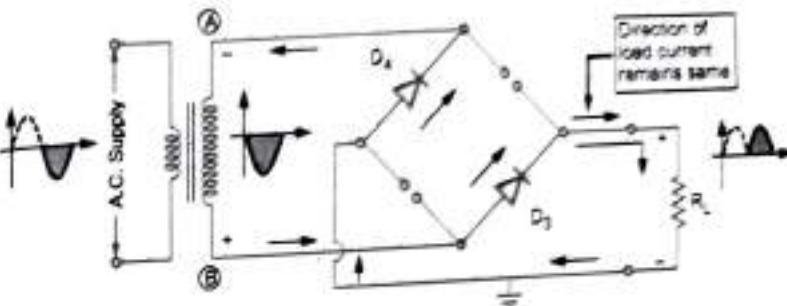

Fig. Q.32.3 Current flow during negative half cycle
- In the next half cycle, when the polarity of ac voltage reverses hence point B becomes positive diodes D3 and D4 are forward biased, while D1 and D2 reverse biased. Now the diodes D3 and D4 conduct in series with the load and the current flows as shown in Fig. Q.32.3.